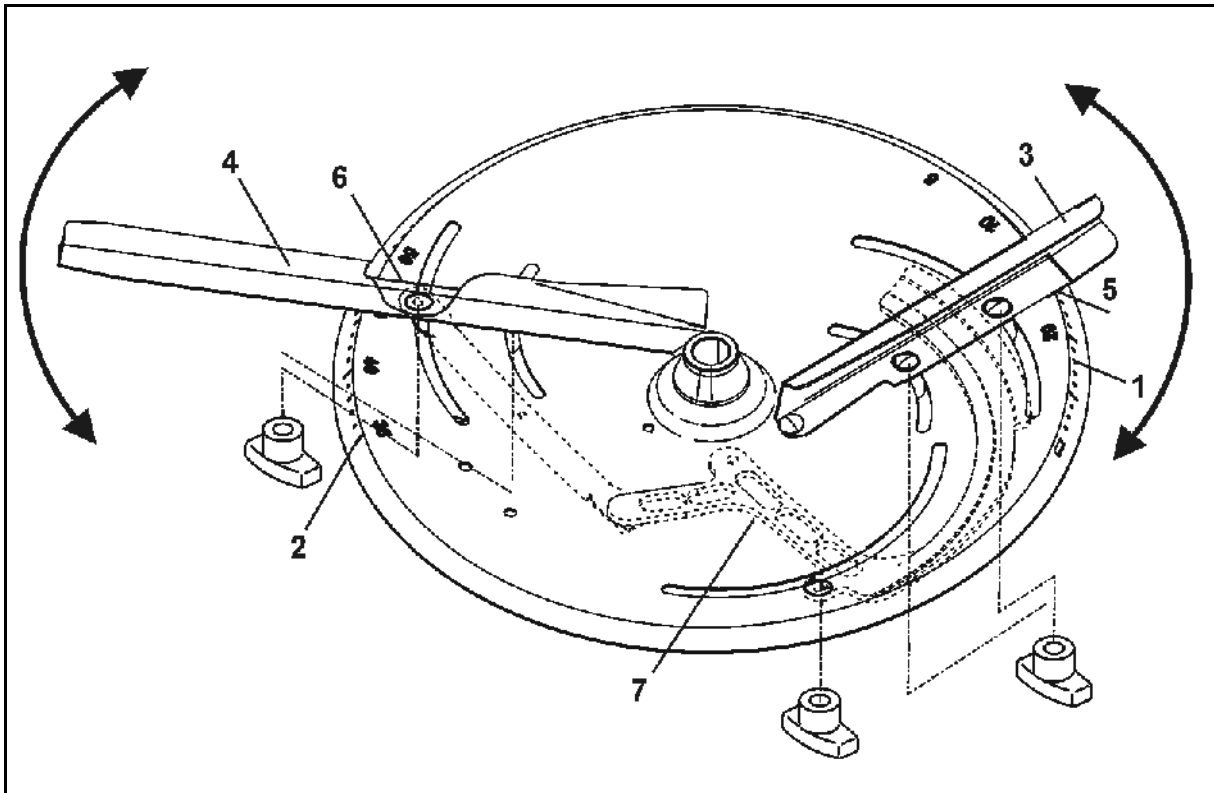

**Fig. 59**
1. Remove thumb screw (Fig. 59/1).
2. Rotate the spreading disc so that the 8 mm dia. disc hole (Fig. 59) is aligned with the centre of the machine.